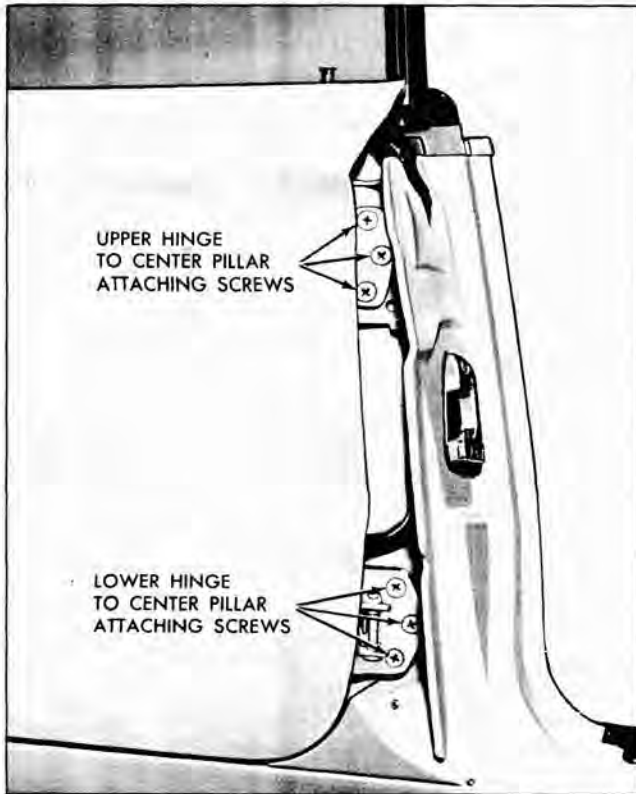

Fig. 3-34 Rear Door to Center Pillar Attachment
4. With door properly supported, remove three (3) upper and three (3) lower hinge attaching screws at door hinge pillar or center pillar depending on method of removal (Fig. 3-34 and 3-35).
2. To adjust door fore or aft, loosen hinge to center pillar attaching screws (Fig. 3-34). Adjust door fore or aft as required and tighten screws and bolts.